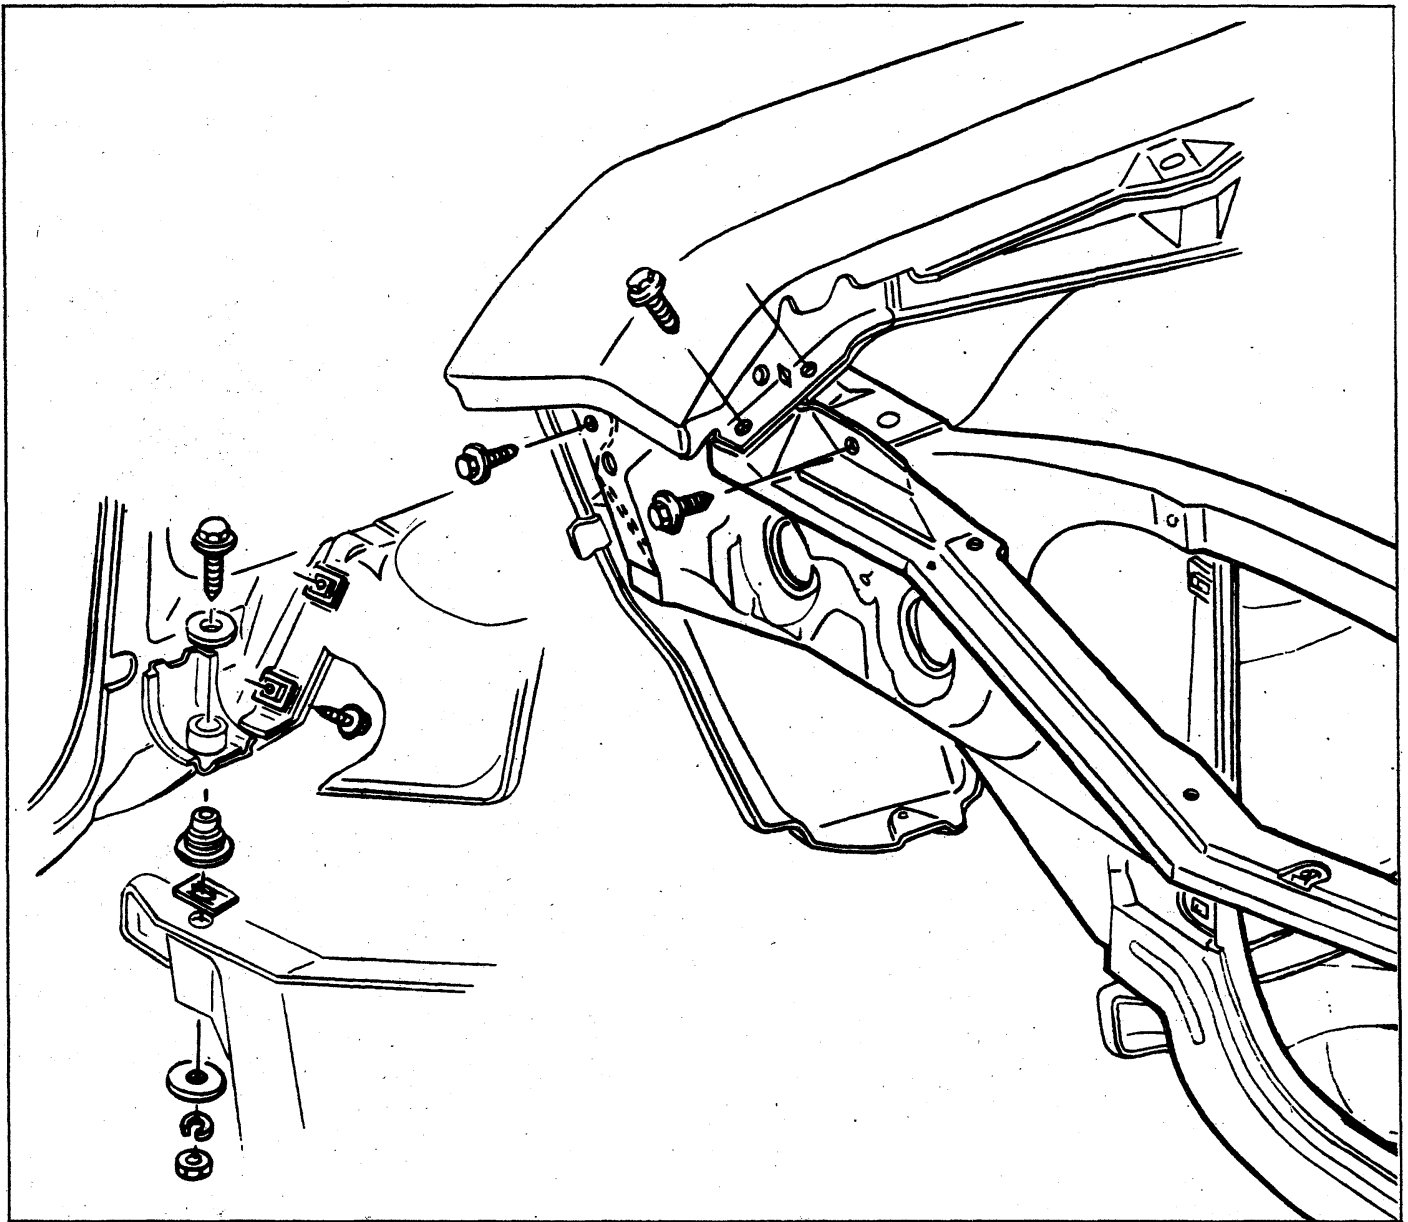

Fig. 8 - Chevrolet Radiator Support to Frame,
7. Remove screws and bolts securing support to skirts, fenders, and frame horns (figs. 8 and 9).